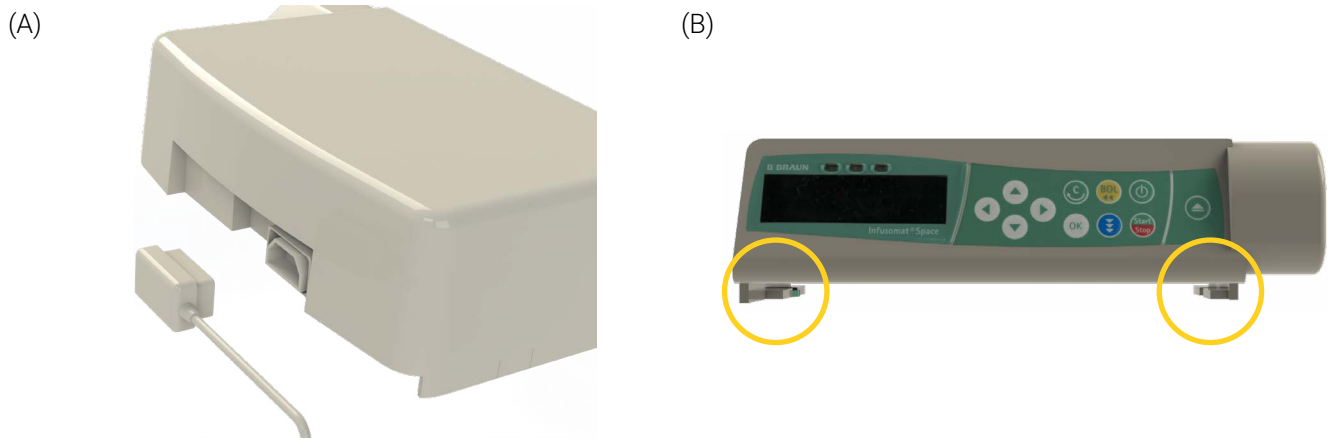

Figure 15: B. Braun Infusomat Space infusion pump
1. Plug in the power cord into the back of the infusion pump (Figure 15 A), to facilitate the installation. If required, refer to the pump's operation manual for proper use and recommendations.
2. Locate the two (2) bottom grooves under the pump (Figure 15 B).